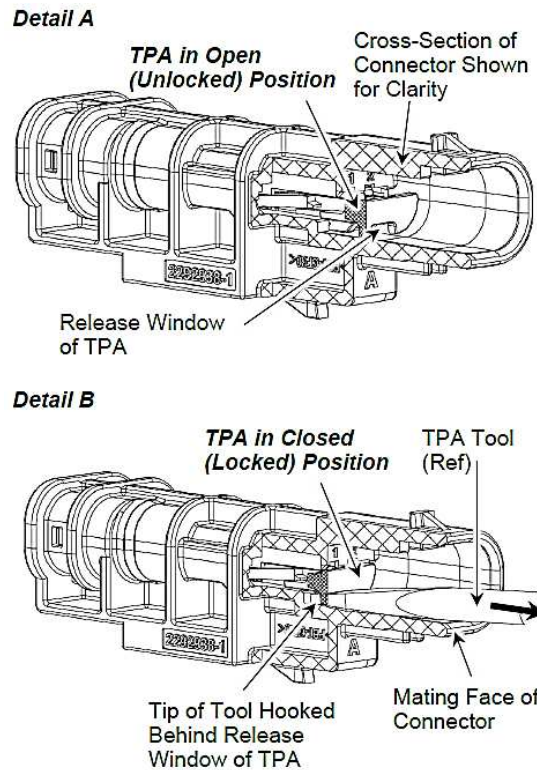

Figure 11
- iii. Make sure that the TPA is in the open (unlocked) position as shown in Figure 11, Detail A. If it is not, open the TPA as follows:
- a. Insert the tip of TE Removal Tool 776441-1 (or similar hook tool) into the mating face of the connector and hook it behind the release window of the TPA. See Figure 11, Detail B.